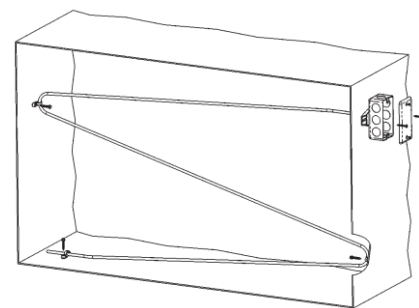
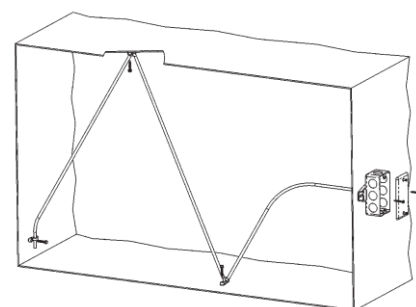

Figure 4: Flexible Sensor Horizontal Mount (Best for Vertical Stratification)
Figure 5: Flexible Sensor Vertical Mount (Best for Horizontal Stratification)
1. Place the sensor in the middle or top of the duct as shown in Figure 4 or Figure 5 so the flexible probe can enter the duct in a convenient place. Drill the probe and mounting holes as depicted for the enclosure being used.